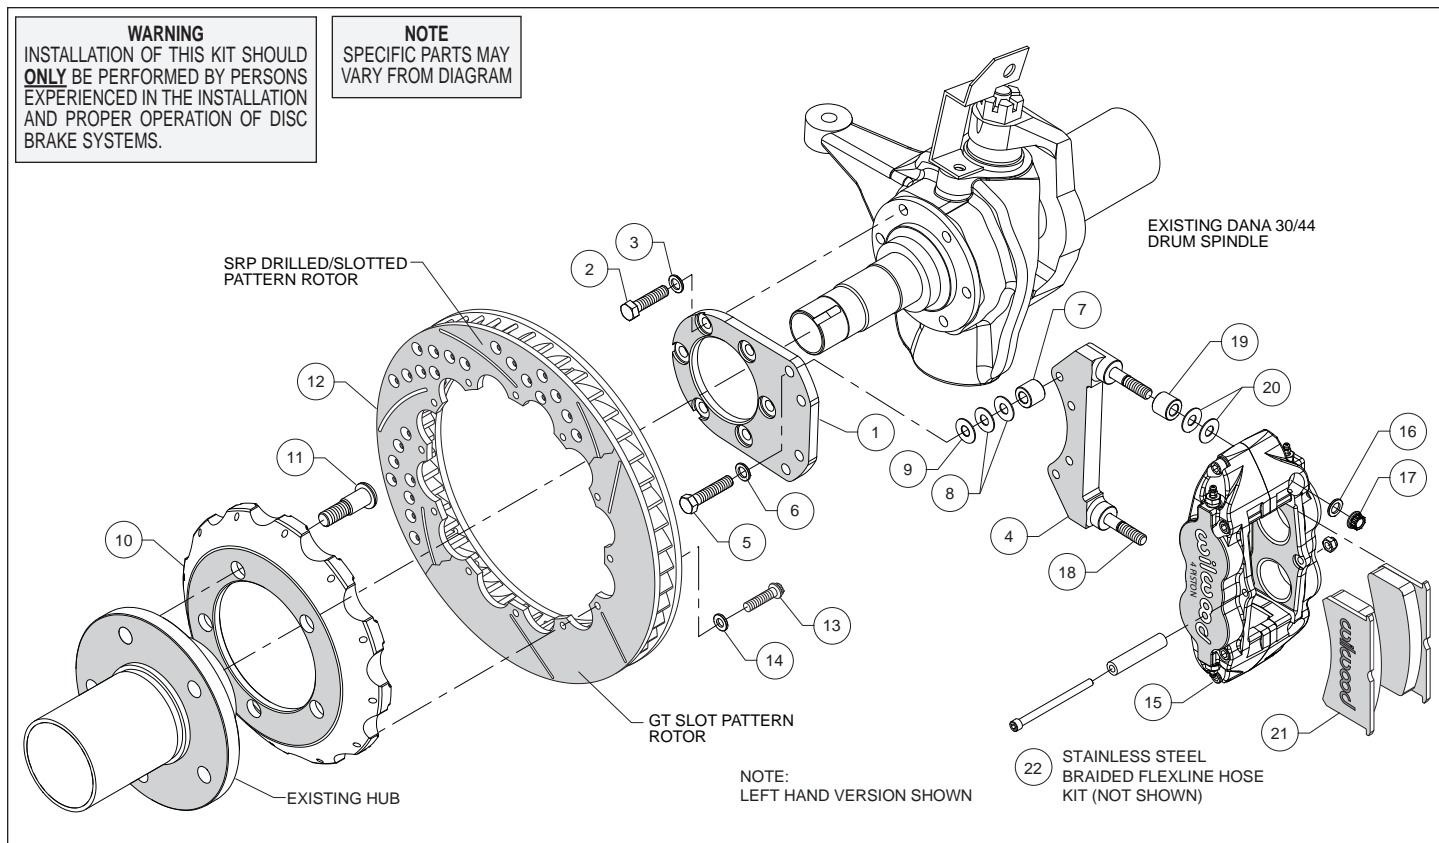
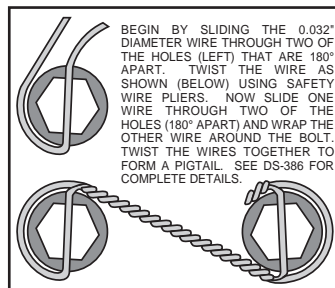

Figure 1. Typical Installation Configuration
Figure 3. Safety Wire Diagram
Assembly Instructions (numbers in parenthesis refer to the parts list and Figure 1 on the preceding pages):
- Orient the flat mount bracket (1) as shown in Figure 1 and Photo 1, and install using bolts (2), and washers (3). Ensure that the counterbored holes in the bracket are facing outboard, Figure 1. Temporarily tighten the mounting bolts. **NOTE:** *The bracket must fit squarely against the mount bosses on the upright.* Inspect for interference from casting irregularities, machining ridges, burrs, etc. Remove bolts one at a time, apply red *Loctite*® 271 to the threads and torque to 40 ft-lb.
- The caliper mount bracket (4) should initially be installed with clean, dry threads on the mounting bolts. Orient the bracket as shown in Figure 1 and Photo 2, and install using mount bolts (5) and washers (6). Initially place two .035" thick shims (8) and spacer (7) on each bolt between the flat and caliper brackets, Figure 1. Temporarily tighten the mounting bolts. Later, after the caliper alignment has been checked, the mount bolts will be secured using red *Loctite*® 271.
- Orient the hat (10) and the OEM hub as shown in Figure 1 and Photo 3. **NOTE:** *The hat must fit flush against the axle hub or excessive rotor run out may result.* Install the wheel studs (11) thru the holes in the hat and press into the existing hub. **NOTE:** *We recommend this procedure be performed by a qualified machinist.*
- Orient the rotor (12) and the hat/hub assembly as shown in Figure 1 and Photo 4. Attach rotor to hat using bolts (13) and washers (14). Using an alternating sequence, apply red *Loctite*® 271 to the threads, and torque to 155 in-lbs. For an added measure of security, the bolts may be safety wired using standard 0.032 inch diameter stainless steel safety wire as shown in Figure 3. Please refer to Wilwood's data sheet DS-386 (available at www.wilwood.com/Pdf/DataSheets/ds386.pdf) for complete safety wire installation instructions.
- Lubricate the caliper mounting studs (18) with lightweight oil. Initially place two .035" thick shims (20) and spacer (19) on each stud as shown in Figure 1 and Photo 5. Mount the caliper (15) onto the bracket (4) using lock nuts (17) and washers (16), Figure 1. Temporarily tighten the lock nuts and view the rotor through the top opening of the caliper. The rotor should be centered in the caliper, Photo 6. If not, adjust by adding or subtracting shims (8 and/or 9) between the spindle bracket and caliper bracket. Always use the same amount of shims on each of the four mounting bolts. Once the caliper alignment is correct, remove the bracket to bracket mounting bolts (5) one at a time, apply red *Loctite*® 271 to the threads, and torque to 35 ft-lb.